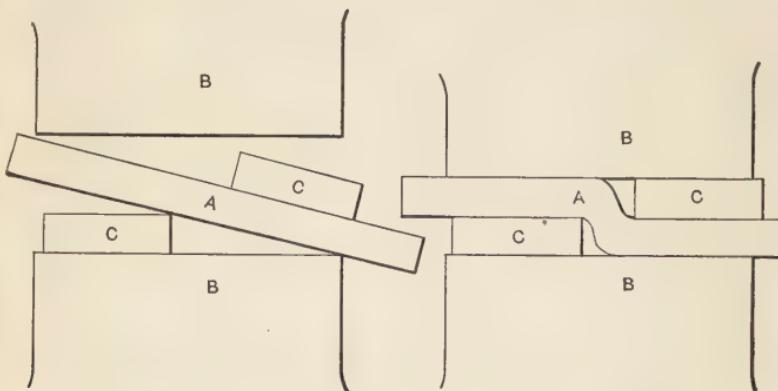

Fig. 19.
**Cutting-off Tool.**—The first lathe tool that we will take up will be the cutting-off or parting tool. Fig. 13 shows how it should be made. Always use the set hammer shown in Fig. 19, Chapter I., then flatten down as in Fig. 14, keeping the top side straight and letting
Fig. 18 shows two views of a cutting-off tool that is a favorite with machinists who have used it. It is made by offsetting the stock before forging the blade. This offsetting can best be done under the dies of the steam hammer if one is at hand, as illustrated in Figs. 19